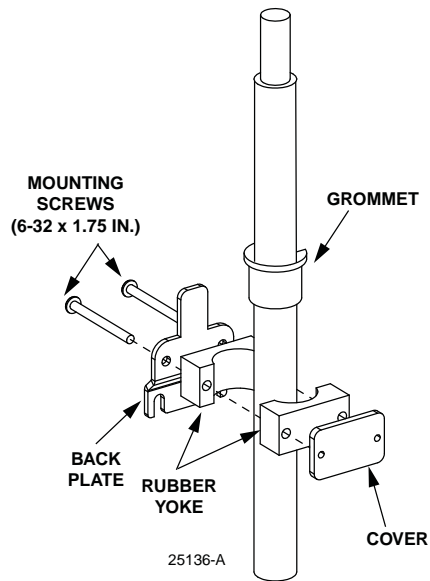

Figure 42. Standard Cable Clamp Exploded View
8. If the cable diameter is 0.8 in (2.0 cm) or less, assemble the “standard” cable clamp at the cable clamp position (see Figure 42). There are different sizes of grommets, measured by their inside diameters of 0.4, 0.5, 0.6, and 0.7 in. (1.0, 1.27, 1.52, and 1.78 cm). Select the grommet with an **inside** diameter that is one size smaller than the **outside** diameter of the cable. After assembling the components on the mounting screws, tighten the screws until the yokes make contact, then tighten the screws four additional revolutions.